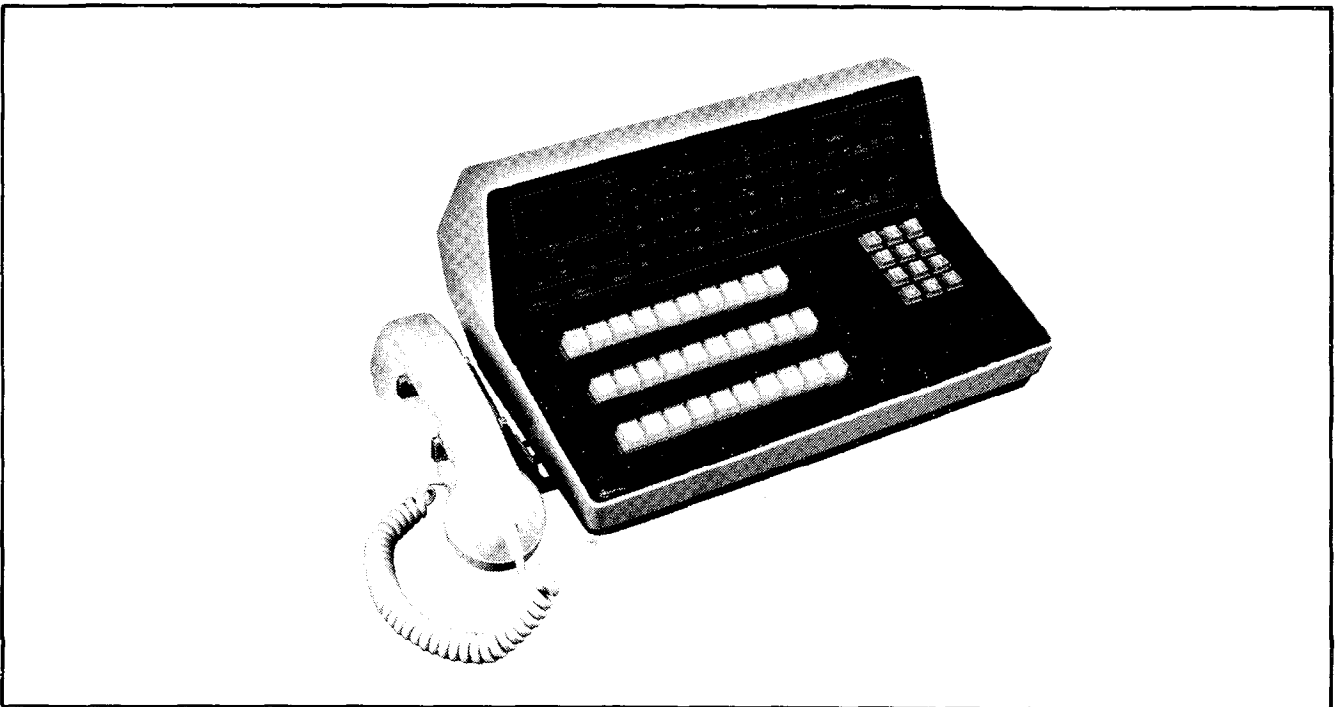

Fig. 4-3 Attendant Console
4.06 The layout of the SX-100/SX-200 attendant console is shown in Fig. 4-3. The three rows of buttons on the console faceplate are used to select and handle calls. Each button has a light emitting diode (LED) associated with it to indicate the operational status of the button.